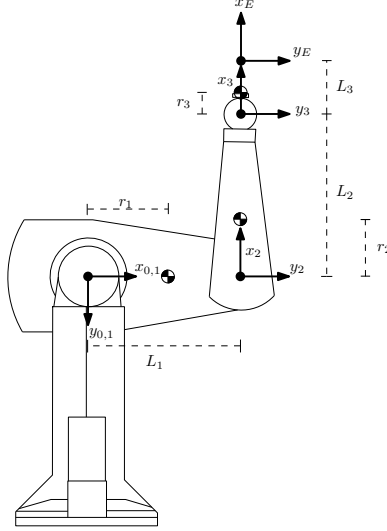

Figure 1: RRR Puma in zero configuration.
In this assignment you will derive the Denavit–Hartenberg (DH), forward kinematic mode, and the Jacobian of the RRR planar manipulator shown in Fig. 1, which corresponds to the 3-DOF mode of the Puma 560. The three joints in this mode correspond to the joints 2, 3, and 5 of the robot. You will implement the methods of the class `FORWARDKINEMATICS PUMA2D` in the provided file `forwardkinematics.cpp`.
Use the frame assignment depicted in Fig. 1 to derive the DH parameters. The figure shows the zero configuration of the robot.
Hints: `gv.x` contains three values: the current x -position, the y -position and the orientation α of the end-effector. Note that the y -axis in the simulator is orientated in the opposite direction as the one in figure1. Start the recording *after* you moved the robot close to $x(t_{start})$ by executing `proj1Control`.